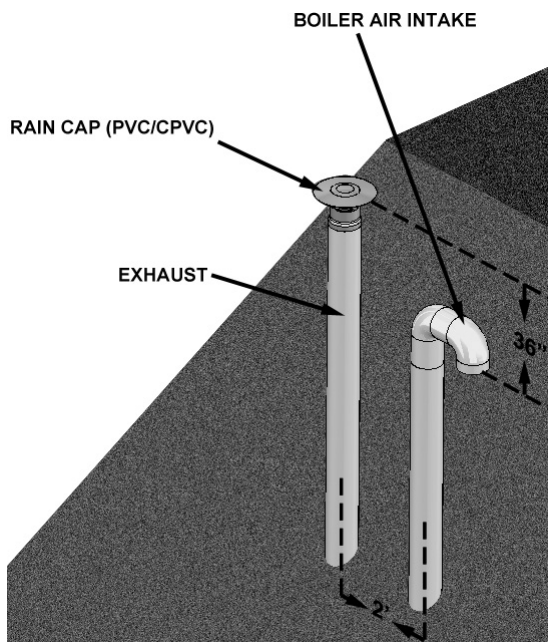
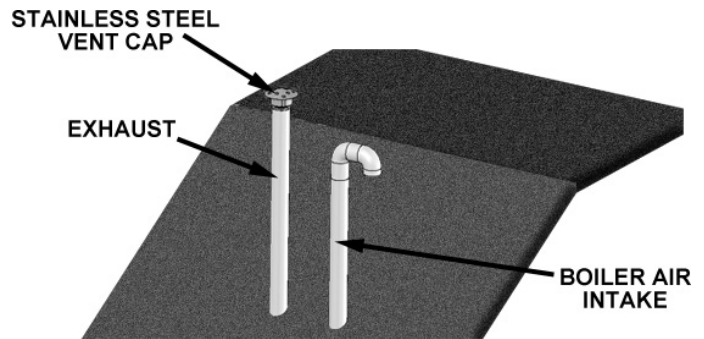

FIGURE 35. PVC/CPVC AIR/VENT TERMINATION - VERTICAL
FIGURE 36. STAINLESS STEEL AIR/VENT TERMINATION - VERTICAL
4. The vent piping must terminate in an up-turned rain cap as shown in Figure 35. When the vent termination uses a rain cap as illustrated in Figure 35, maintain at least 36" (914 mm) above the air inlet. The air inlet pipe and vent pipe can be located in any desired position on the roof, but must always be no further than 2 feet (0.6 m) apart and with the vent termination at least 1 foot above the air intake.
6. If installing both intake air and vent piping in a Direct Vent configuration vertically through the roof; ensure that all exterior vertical clearance requirements shown in Figure 35 are being maintained. These clearances and those cited by local and national codes must be maintained.
3. Space the air and vent holes to provide the minimum spacing shown in Figure 35 and Figure 36.